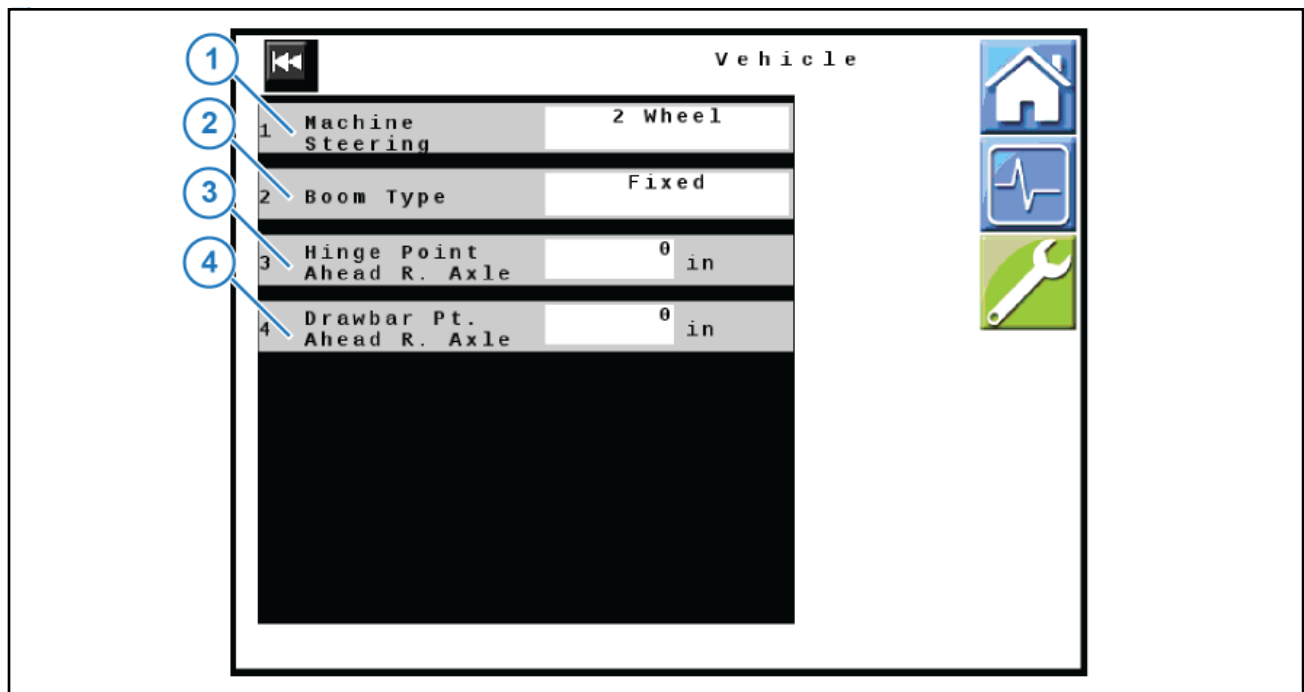

Figure 22: Vehicle Settings
2. Select the correct **Machine Steering** (Figure 22, Item 1) option for your machine:
3. Select correct **Boom Type** (Figure 22, Item 2) option for your machine:
5. Enter the correct **Drawbar Pt. Ahead R. Axle** measurement (Figure 22, Item 4) on the **Vehicle** screen as a (-) negative value. The remaining values will be entered on the **Implement** screen.